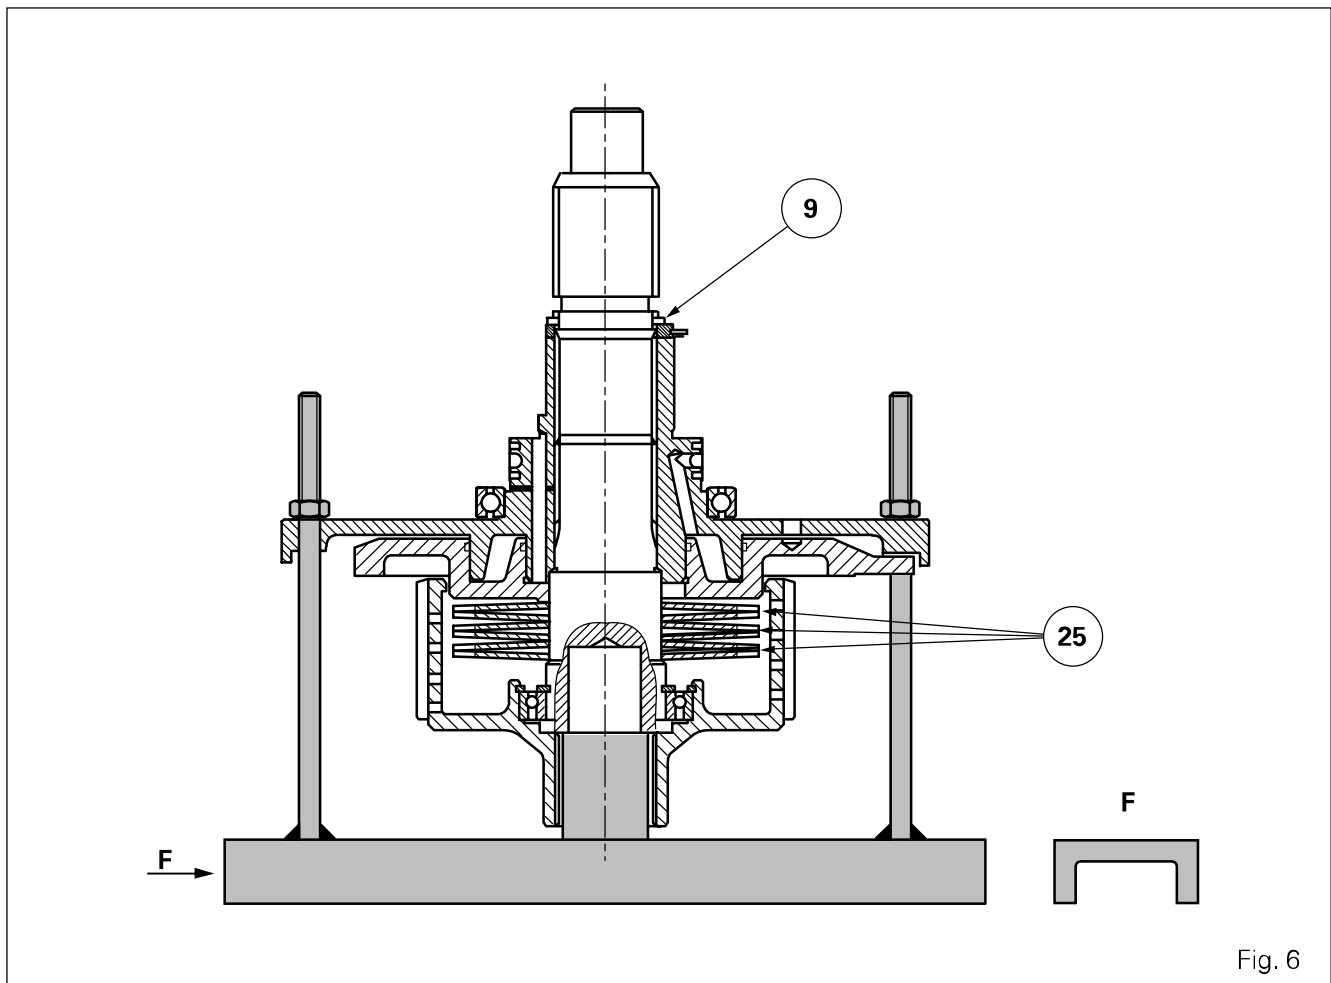

Fig. 6
18. Separate cover (33) from unit (18). Remove the discs (29) and the intermediate plates (30).
19. Remove the front snap ring (9). Remove the splined ring (6), the anti-extrusion rings (8) and seal (7).
20. Remove circlip (11), take off cover (2) from the pump (14) complete with bearing (12).
21. Pull the lubricating pump out of the pump unit (1) and take it apart from the clutch housing (18).
22. Remove seal rings (15). If necessary, extract ring (16) and remove the 1.5 bar valve (73).
23. Place the partially disassembled clutch on a suitable locally made fixture (Fig. 6) (see § F).
24. Compress the Belleville washers (25) and remove the rear snap ring (9) (Fig. 6).
25. Remove locking ring (5). Gradually release the Belleville washers.
26. Split unit (18) fitted with piston (28) from shaft (19).
28. Remove snap ring (23). Pull out the shaft (19) complete with bearing (22) from hub (27).
29. Remove the circlip (21). Extract the bearing (22) from shaft (19).
30. Remove the piston. Remove seals (24) (69) and discard them. If necessary, extract the bearing (68) from unit (18).
31. If necessary, remove snap ring (54) and remove the input sun gear (53). Remove snap ring (65). Extract bearing (32).